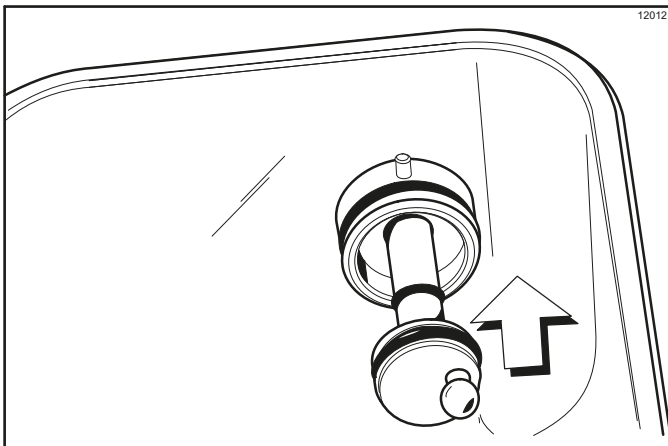

Figure 6-32
14. Install the hex end of the drive shaft into the drive hub at the rear wall of the mix hopper. (See Figure 6-32.)